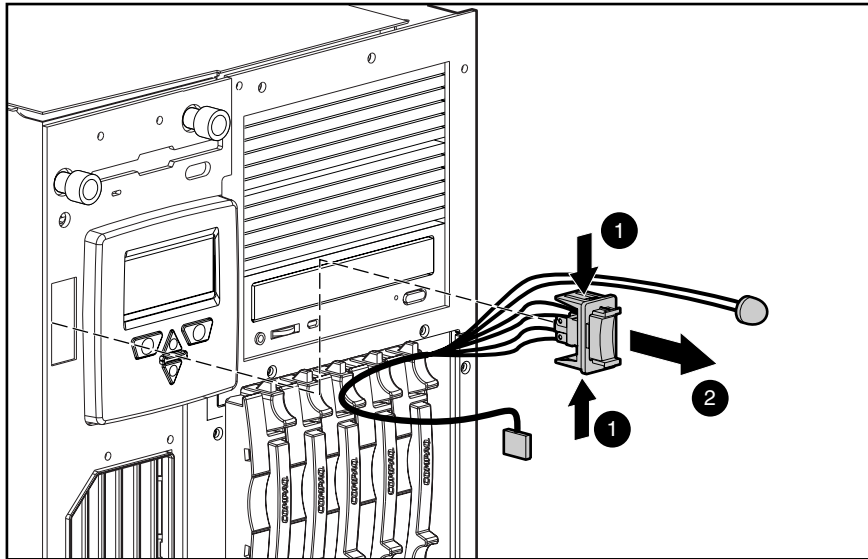

Figure 2-19. Removing the power switch
**NOTE:** The processor power module must be installed in the slot next to the processor. See Figure 2-19 for processor power module locations.